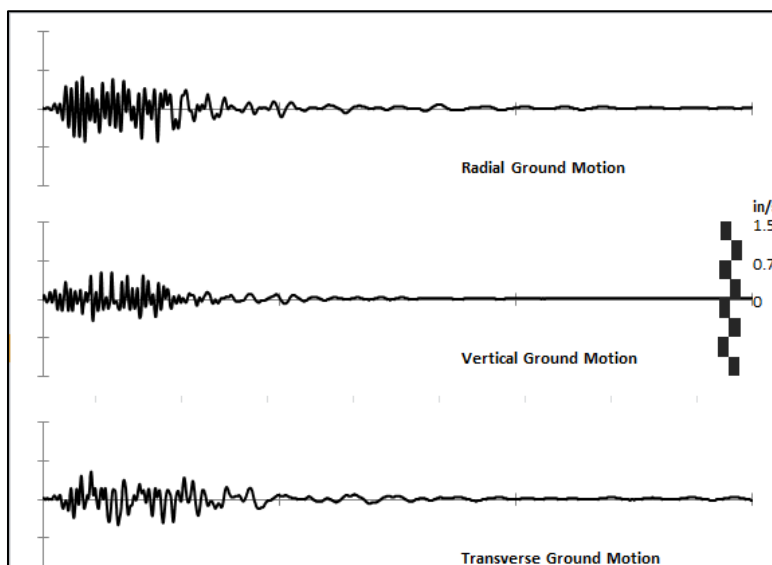

Figure A 29: Initial Scaling of Ground Motion Plots
2. Navigate to the External Trigger Tab. The ground motion plots are shown in Figure A 29